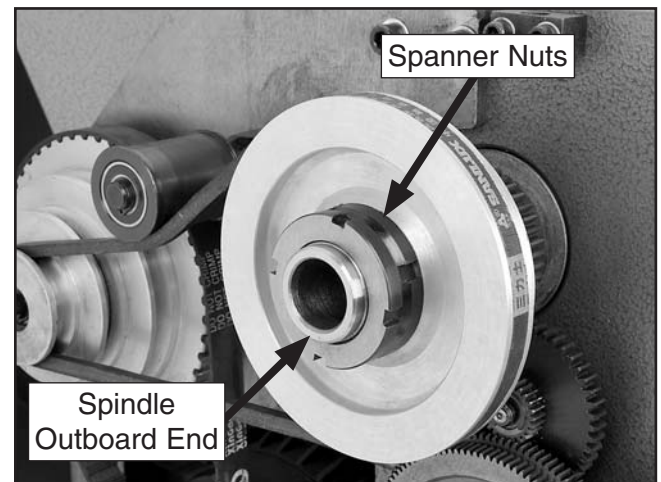

Figure 79. Outboard end of spindle and spanner nuts.
3. Remove the chuck or faceplate from the spindle, then open the change gear cover to expose the outboard end of the spindle (see **Figure 79**).
4. Insert the handle of a chuck key or similar tool in a spindle indent to keep the spindle from rotating, then remove the outer spanner nut (see **Figure 79**).